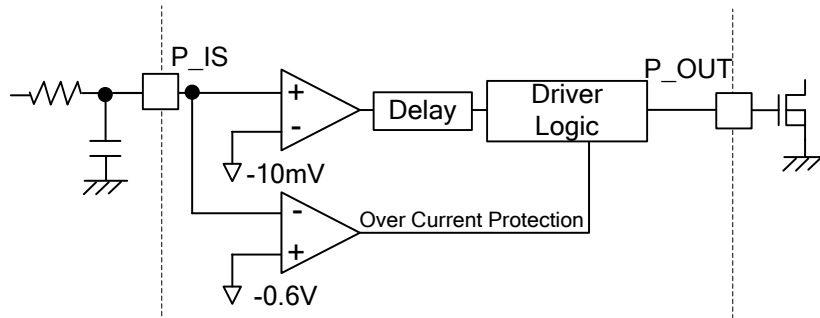
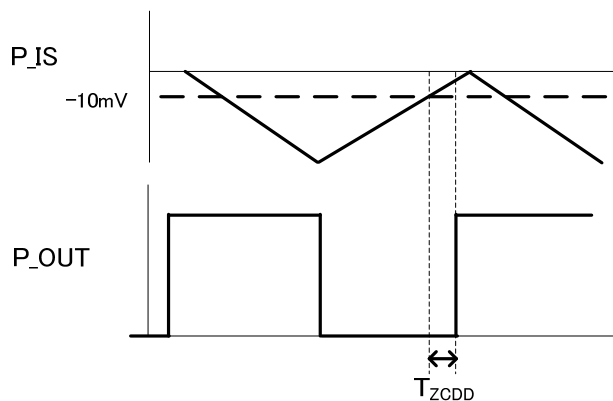

Figure 31. Current Detection Circuit of P\_IS Terminal
Figure 32. P\_IS Zero Current Detection Delay Time
Zero current detection circuit is the function that detects zero cross of PFC inductor current (IL). (Shown in Figure32) The voltage of P\_IS pin becomes more than the voltage of zero current detection and P\_OUT output turn ON after it is passes for Delay time.
The maximum ON width which set in Figure 31 needs to set more than  $T_{MAXON}$  width which shows above. In order to improve the efficiency in a light load, the frequency rising in a light load is limited to set value at P\_RT pin, by the maximum frequency of Figure 32.